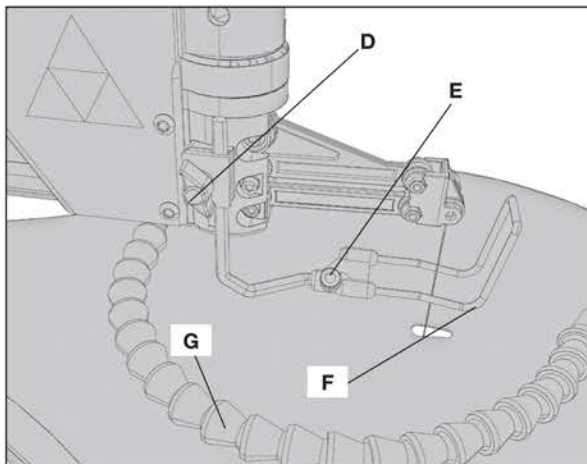

FIG. 7
The material hold-down (F) Fig. 7 should contact the surface of the workpiece. To adjust the material hold-down, loosen the thumbscrew (D) Fig. 7 and move the rod up or down.
Your scroll saw features an adjustable air (G) Fig. 7 hose to keep your work area free from dust and debris. Be sure to position the air hose properly: it should blow saw dust away from the operator.